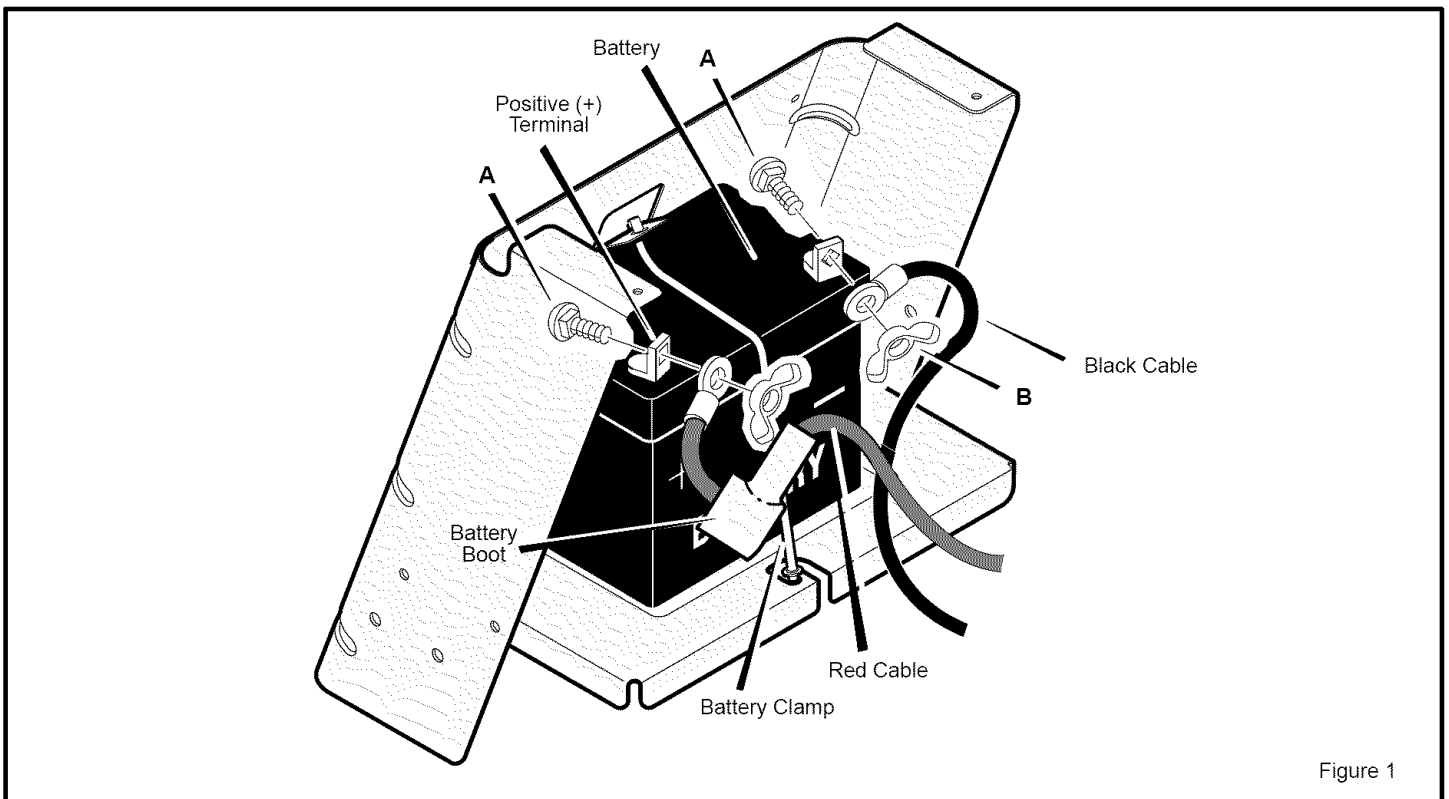

Figure 1
2. Check the top of the battery for the location of the **battery date** (Figure 1).
2. Fasten the red cable to the **positive (+) terminal** with the fasteners as shown (Figure 1).